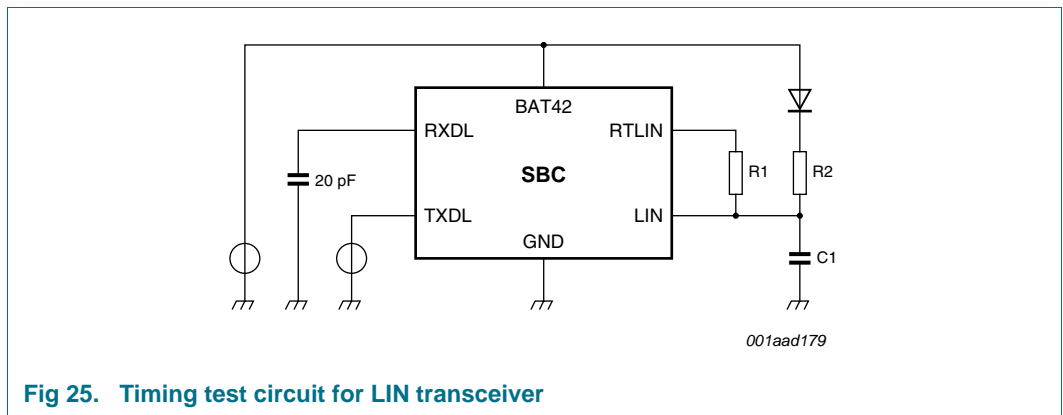
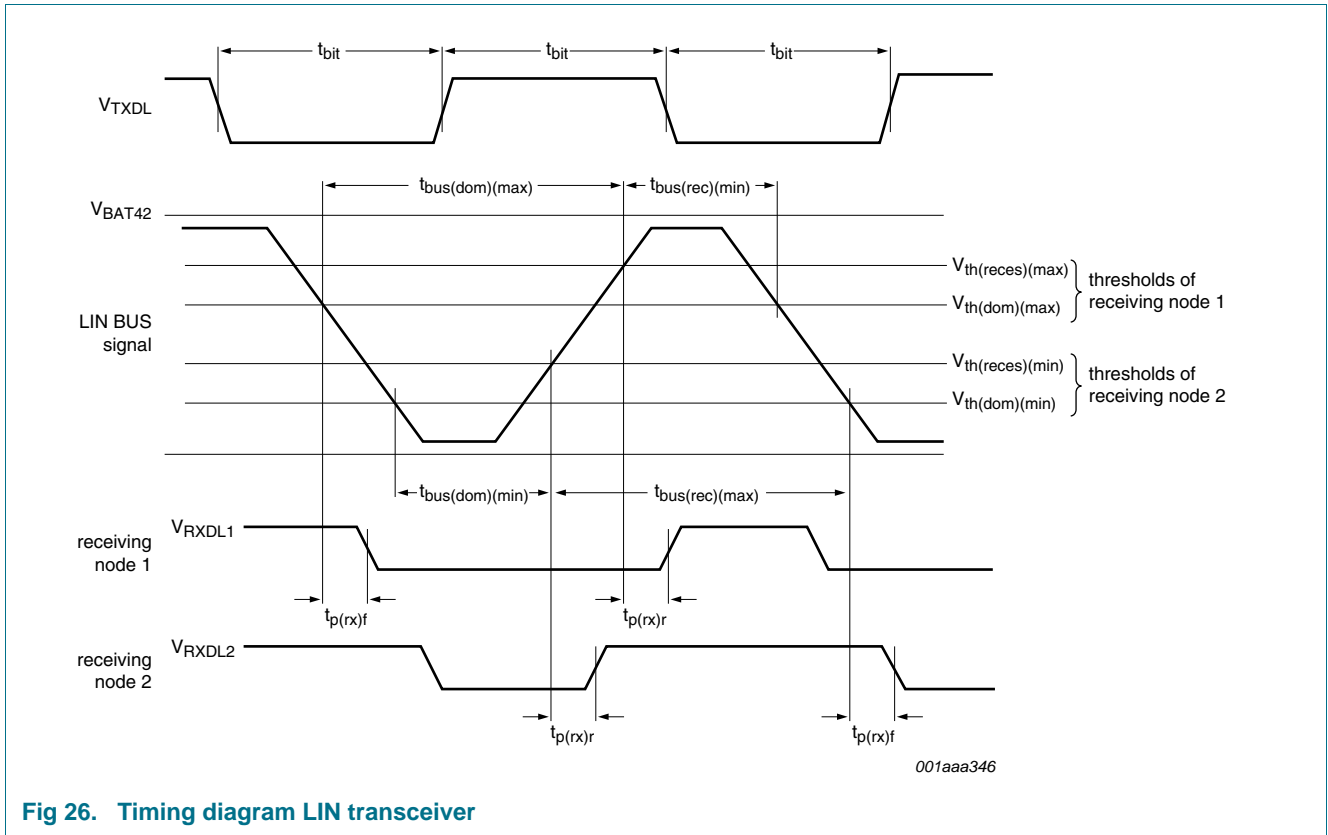

Fig 25. Timing test circuit for LIN transceiver
Fig 26. Timing diagram LIN transceiver
- [3] t_{bit} = selected bit time, depends on LSC-bit; 50 μs or 96 μs (20 kbit/s or 10.4 kbit/s respectively); bus load conditions ($R_1/R_2/C_1$): 1 k Ω /1 k Ω /10 nF; 1 k Ω /1 k Ω /6.8 nF; 1 k Ω /open/1 nF; see Figure 25 and Figure 26.